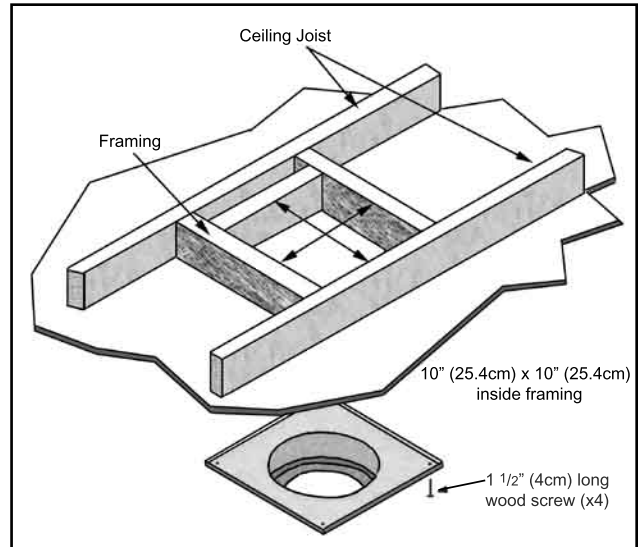

Figure 19: Wall Framing Hole for Vertical Installation.
STEP 3. To install the Round Support Box/Wall Thimble in a flat ceiling, cut a 10 inch (25.4 cm) square hole in the ceiling, centered in the hole drilled in Step 2. Frame the hole as shown in Figure 19.